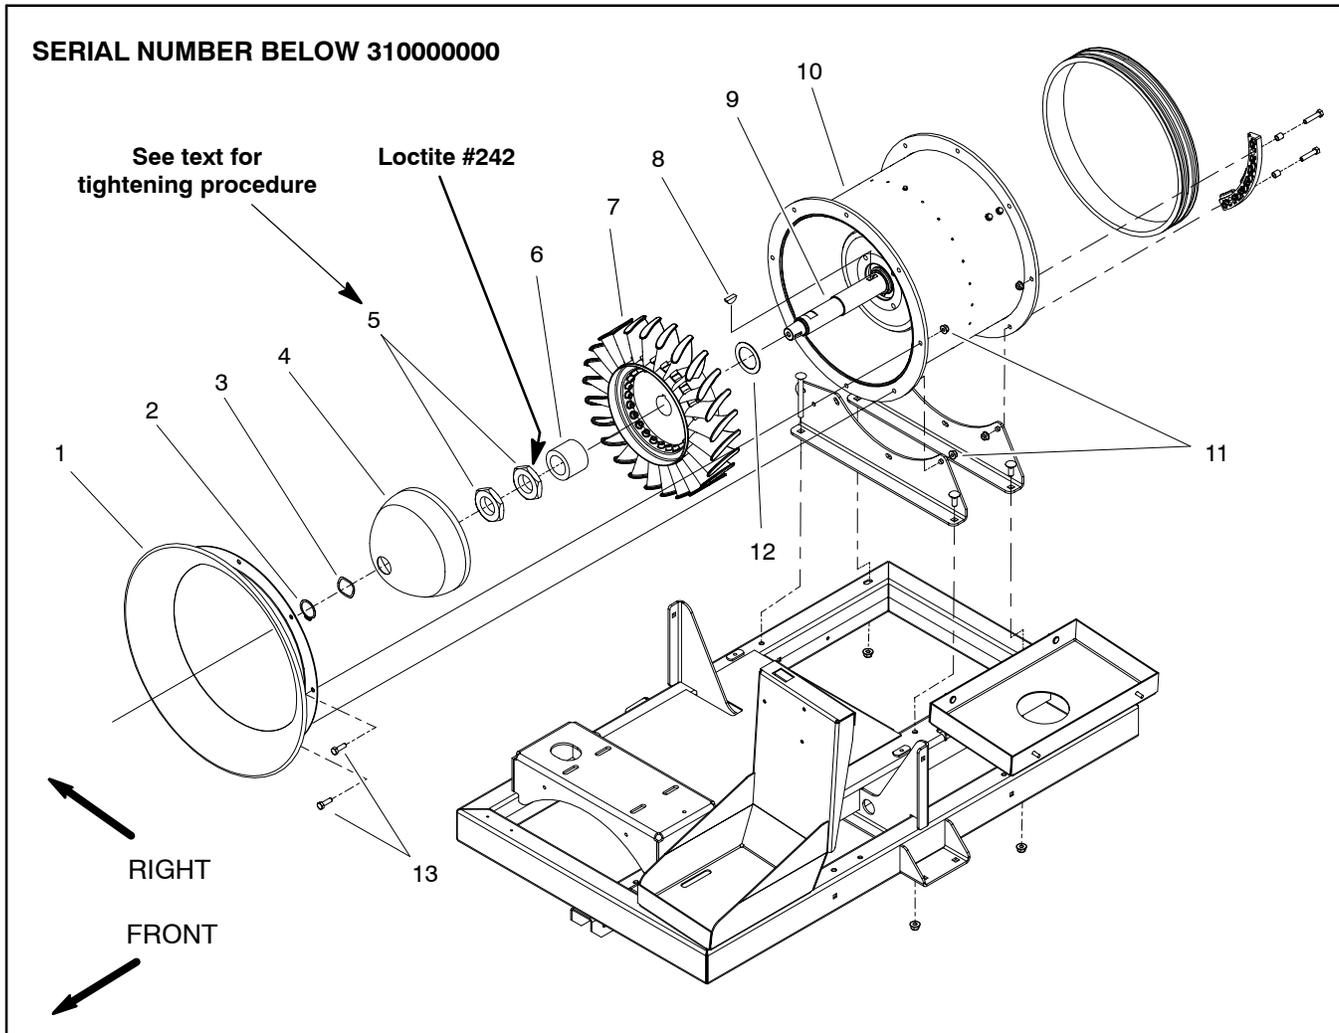
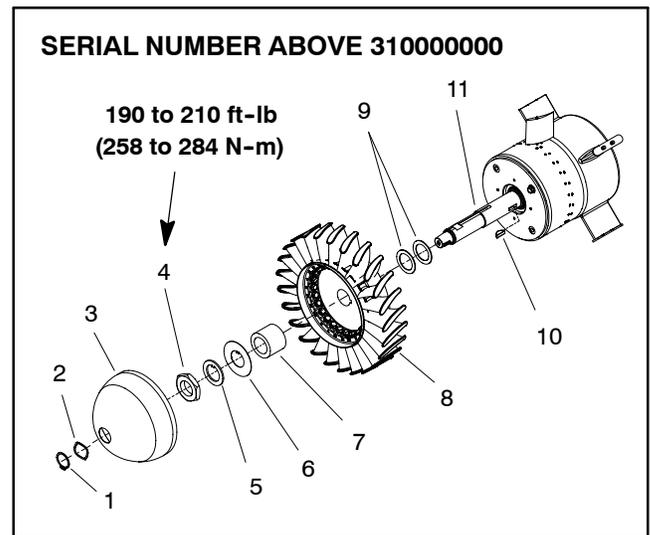

Figure 4
Figure 5
NOTE: ProForce blowers with a serial number below 310000000 use two (2) nuts to secure rotor assembly to rotor shaft (Fig. 4). Blowers with serial numbers above 310000000 use one (1) nut (Fig. 5).
Removal (Fig. 4)
A. On machines with serial numbers below 310000000 (Fig. 4), remove outer nut from rotor shaft by rotating nut in a clockwise direction. Then, remove inner nut by rotating nut clockwise. Use offset wrench (see Special Tools) to loosen nuts from rotor shaft.
B. On machines with serial numbers above 310000000 (Fig. 5), straighten inner tab washer to allow removal of nut. Remove nut from rotor shaft by rotating nut in a clockwise direction. Remove two (2) tab washers from rotor shaft.
Installation (Fig. 4)
2. On machines with serial numbers below 310000000 (Fig. 4), secure rotor assembly to rotor shaft as follows:
3. On machines with serial numbers above 310000000 (Fig. 5), secure rotor assembly to rotor shaft as follows:
4. Install front cap (item 4), wave washer(s) (item 3) and retaining ring (item 2) onto shaft. Up to three (3) wave washers might be necessary to secure front cap.